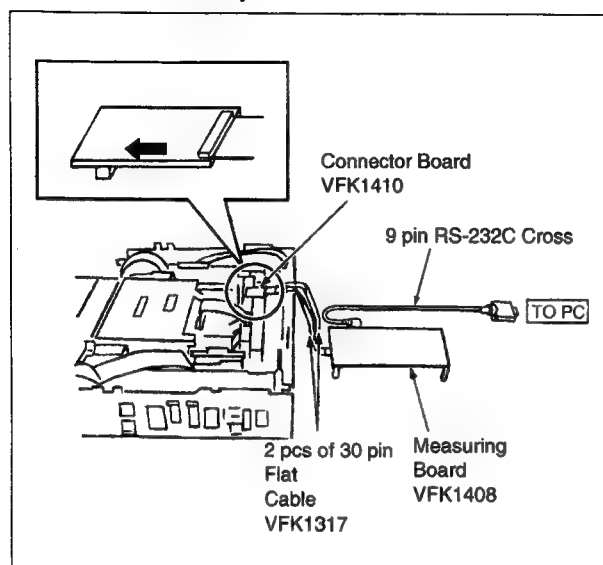

Fig. E5
- Connect a 9 pin RS-232C cable between the Measuring Board and RS-232C connector on the Personal Computer as shown in figure E5.